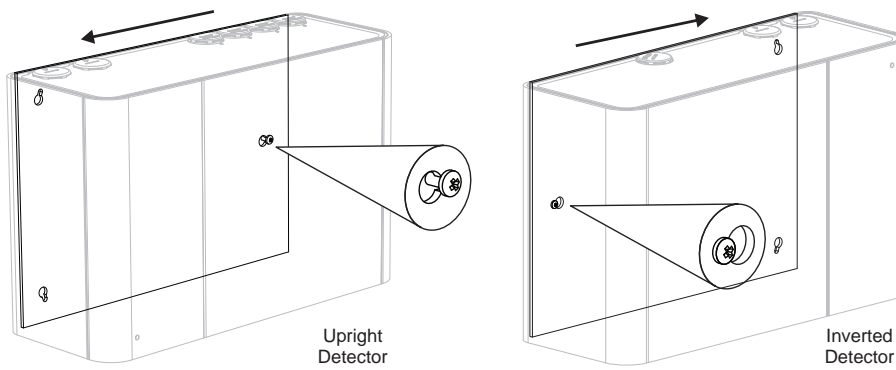

Figure 4-28: Slide detector to the left
- Slide the detector to the left, or to the right for inverted detectors, to lock the detector on the screw (Figure 4-28).